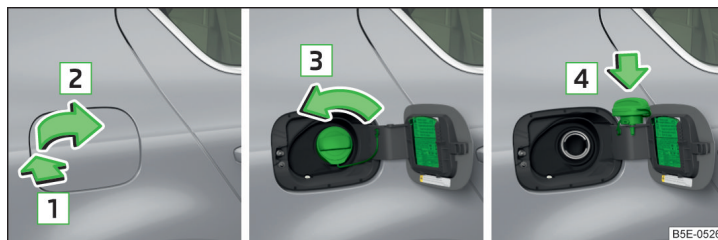

Fig. 309 Open fuel filler flap/unscrew tank cap/place the tank cap on the fuel filler flap
- Press the fuel filler flap in direction of arrow **1** and fold in the direction of arrow **2** » Fig. 309.